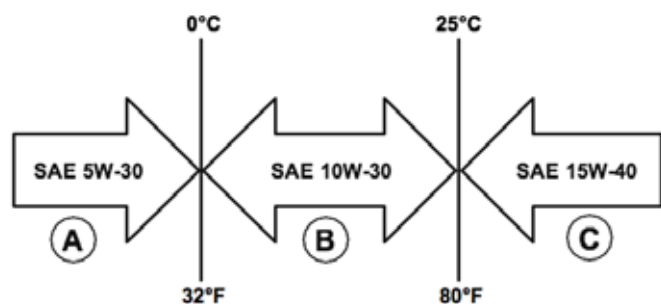

Figure 10: Recommended oil
1. Only use the engine oil specified in Figure 10.
7. Select the proper engine oil as specified in Figure 10.